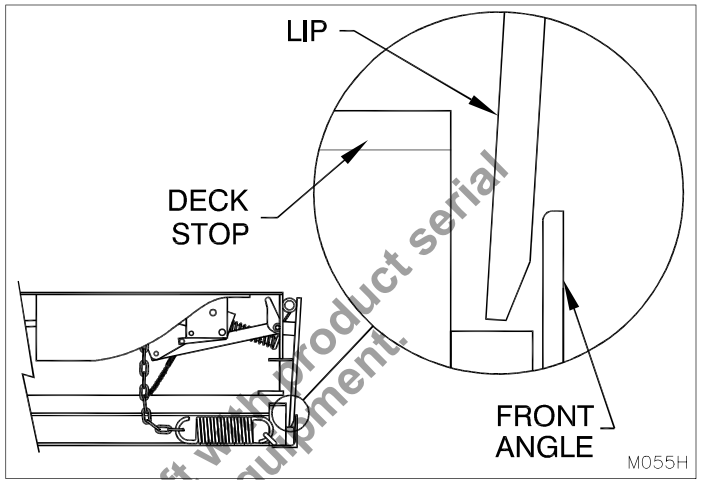

Figure 48: Lip Keeper
6. When loading or unloading is complete, or to handle end loads, operate the dock leveler by jogging the release chain until the lip clears the truck bed and falls to the pendant position. (Jogging the release chain reduces the momentum of the rising deck thus lessening the shock impact on the hold down) Release the chain and walk the deck down to the stored position, assuring that the lip is behind the front angle. (See "Figure 48: Lip Keeper" on page 38)
- If the deck was 4" or more above dock level when the truck departed, the lip will fall to the pendant position. Walk the dock leveler down to its stored position assuring that the lip is behind the front angle. (See "Figure 48: Lip Keeper" on page 38)
- If the deck was less than 4" above dock level, the lip will fall to the pendant position in front of the front angle. To store the dock, jog the release chain and allow the dock leveler to rise a minimum of 4" above dock level to ensure the lip will clear the front angle. Walk the dock leveler down to its stored position, assuring that the lip is behind the front angle. (See "Figure 48: Lip Keeper" on page 38).
4. To return the dock leveler to the stored position: Repeat #1 above and walk the dock leveler into its stored position, assuring the lip is behind the front angle. (See "Figure 48: Lip Keeper" on page 38)